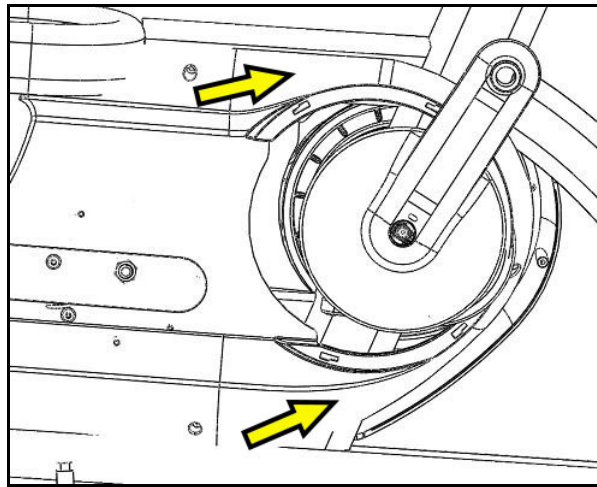

Fig. 11
11. Now the shroud is ready to be removed (Fig. 11).